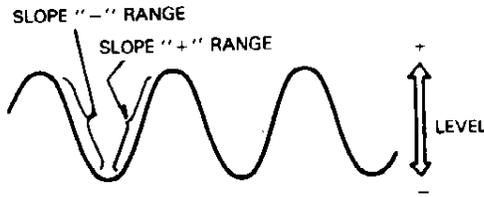

Fig. 8
Trigger point on waveform is adjusted by the LEVEL/PUSH SLOPE ②6 control. Fig. 8 shows the relationship between the SLDPE and LEVEL of the trigger point. Triggering level can be adjusted as necessary.